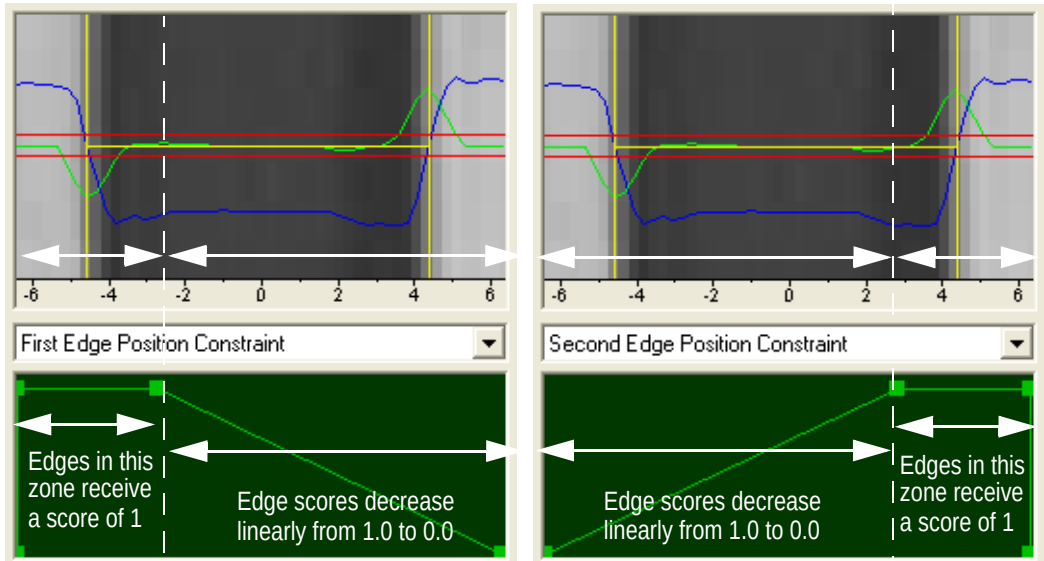

Figure 68 Adjusting Position Constraint Histograms
4. Use the mouse to drag the handles in the histogram window. Set the 1st and the 2nd edge position constraints as illustrated in Figure 68.